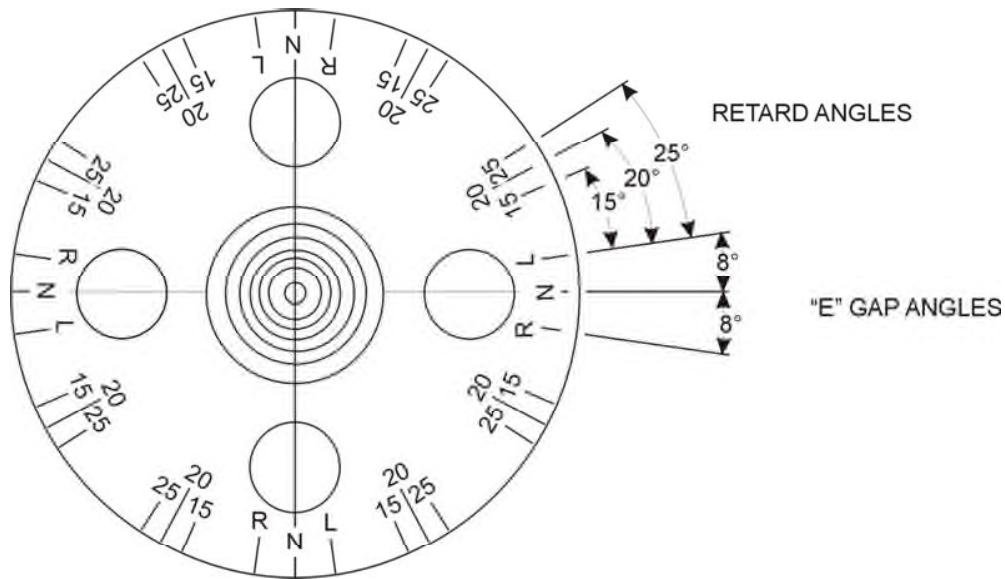

Figure 5-4. Timing Marks on Rotating Magneto
- (1) *Main Breakers* – Connect the timing light negative lead to any unpainted surface of the magneto. Connect one positive lead to the left main breaker terminal and the second positive lead to the right main breaker terminal.
- (2) Back the engine up a few degrees and again bump forward toward number one cylinder firing position while observing timing lights. Both lights should go out to indicate opening of the main breakers when the timing pointer is indicating within the width of the “L” or “R” mark. If breaker timing is incorrect, loosen breaker screws and correct. Retorque breaker screws to 2 to 25 in.-lbs.
- (3) *Retard Breaker* – Remove timing light leads from the main breaker terminals. Attach one positive lead to retard breaker terminal, and second positive lead to the tachometer breaker terminal, if used.
- (4) Back the engine up a few degrees and again bump forward toward number one cylinder firing position until pointer is aligned with 15° retard timing mark. See Figure 5-4. Retard breaker should just open at this position.
- (5) If retard timing is not correct, loosen cam securing screw and turn the retard breaker cam as required to make retard breaker open per paragraph c(4). Retorque cam screw to 16-20 in. lbs.
- (6) Observe that tachometer breaker is opened by the cam lobe. No synchronization of this breaker is required.
- (7) Check action of impulse coupling (D-2000 series only). With the ignition switch off observe breaker cam end of rotor while manually cranking engine through a firing sequence. Rotor should alternately stop and then (with an audible snap) be rotated rapidly through a retard firing position.